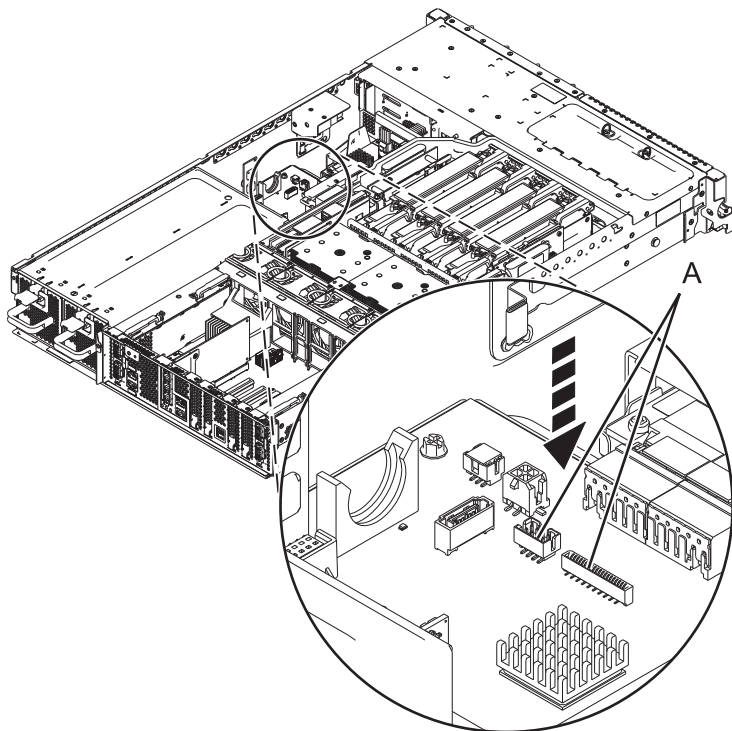

Figure 24. Connecting the operator panel cable
- c. Connect the operator panel cable by firmly pressing the cable connectors into the cable receptacles (A). See Figure 24.